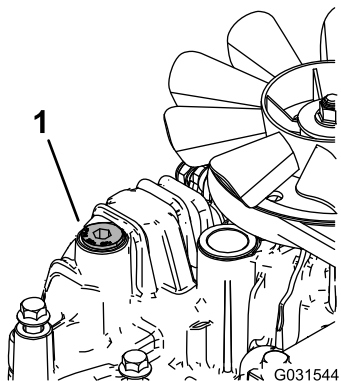

Figure 86
11. Loosen the vent plug in each transmission so that it is loose and wobbles (Figure 86).